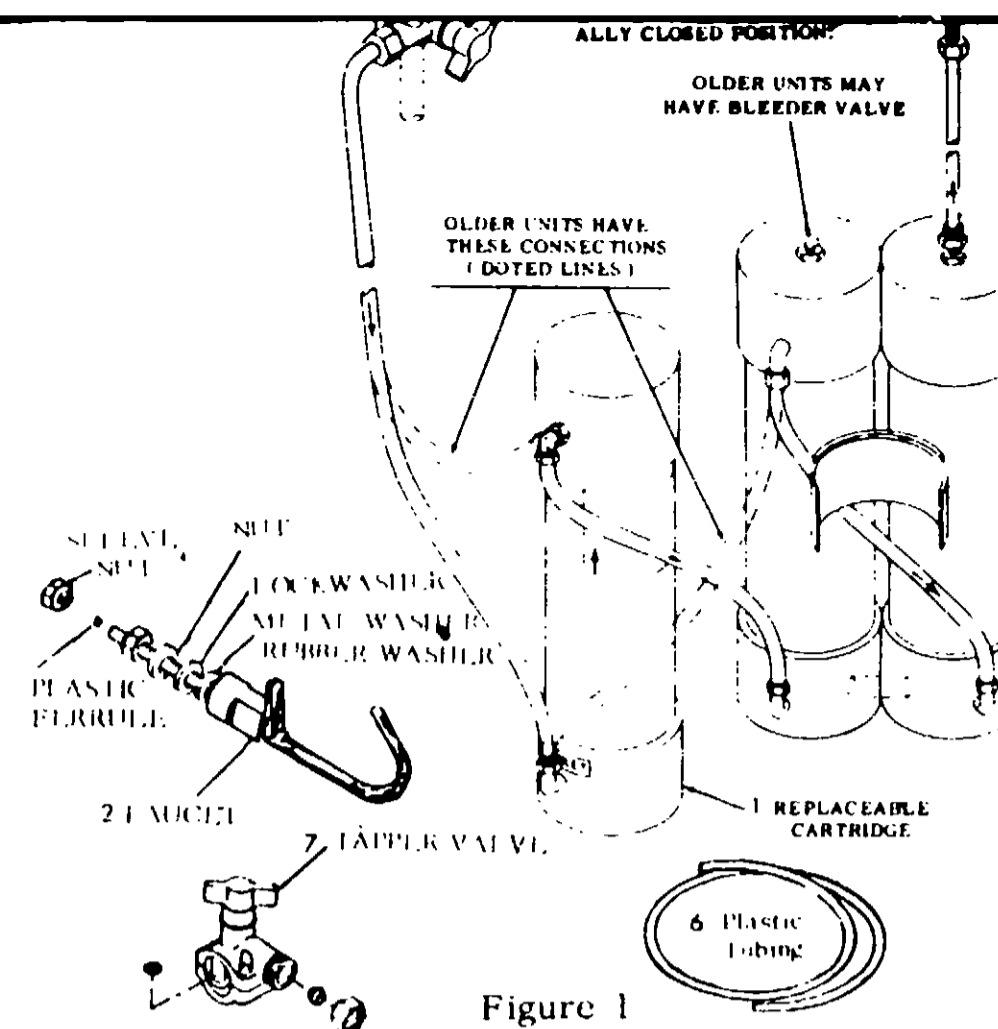
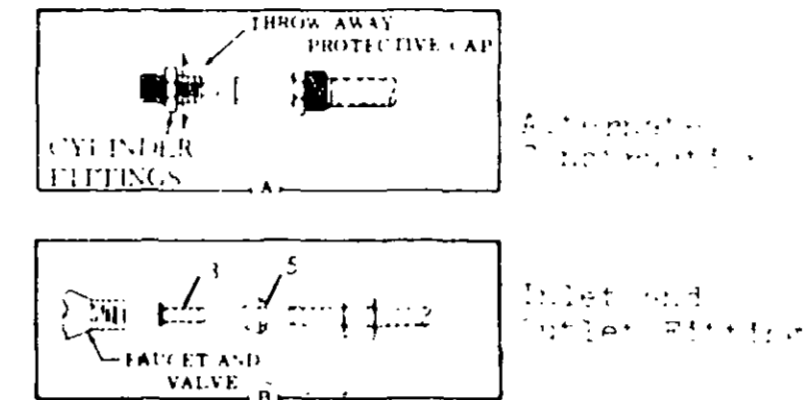

Figure 1
Figure 3
c. If your cold water pipe is threaded brass or galvanized iron pipe or is larger than 5/8 inch diameter or smaller than 3/8 inch diameter, do not attempt to install the line tapping valve (7, figure 1.) Consult plumber for hook-up.
b. Unscrew sleeve nut (figure 1) from faucet. Remove plastic ferrule from sleeve nut and remove the nut lock-washer and metal washer from the threaded shaft of the faucet.
f. Slide plastic tubing (6, figure 1) through sleeve nut and plastic ferrule in direction as shown in (B) of figure 3.
Insert brass insert (3, figure 1) into plastic tubing until it bottoms. Push this assembly into hole in threaded end of shaft of the faucet until it bottoms and then tighten sleeve nut onto shaft with a 1/2" open end wrench.
b. Unscrew the three phillips head screws securing the bottom of the line tapping valve (7, figure 1) to the top. Remove the bottom and two spacers.
e. Remove sieve nut and brass ferrule from tapper valve (Figure 1).
[Note the following - If copper tubing is required in the installation, use brass ferrule. If plastic tubing is used in the installation, then use plastic ferrule (Item 5) and brass insert (Item 3).] Fig. 3-B
f. Open your cold water supply valve and place your faucet handle in the UP (completely open "Hands Off") position as shown in figure 1. Now back off handle of line tapping valve until a full flow of water is observed flowing from faucet. It will take several minutes to fill the unit with water and you may notice a slight gray color in the water at first. This is normal and will disappear. Allow the water to run for about 15 minutes. Shut off the faucet and check all connections for leaks, then open the faucet again and allow the water to run for another 15 minutes. You should now have sparkling, good tasting water.
To install a replacement cartridge, perform the following steps: (See figure 1.)
- Unscrew the three phillips head screws securing the bottom of the line tapping valve (7, figure 1) to the top. Remove the bottom and two spacers.
e. Remove sleeve nut and brass ferrule from taper valve (Figure 1).
f. If there is a bleeder valve on original unit (see figure 1) open to remove air in system.